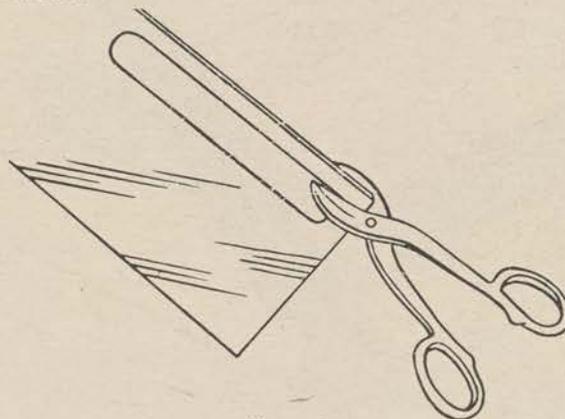

Figure 91.
(1) First, prepare a paper pattern, or template, of the exact size and shape which the bracelet is to take. An average length is about  $5\frac{1}{2}$  inches. Transfer this to the metal by drawing around its edges with a pencil and scratch these lines in with the awl. Saw or clip out the strip and file the edges smooth (fig. 91).